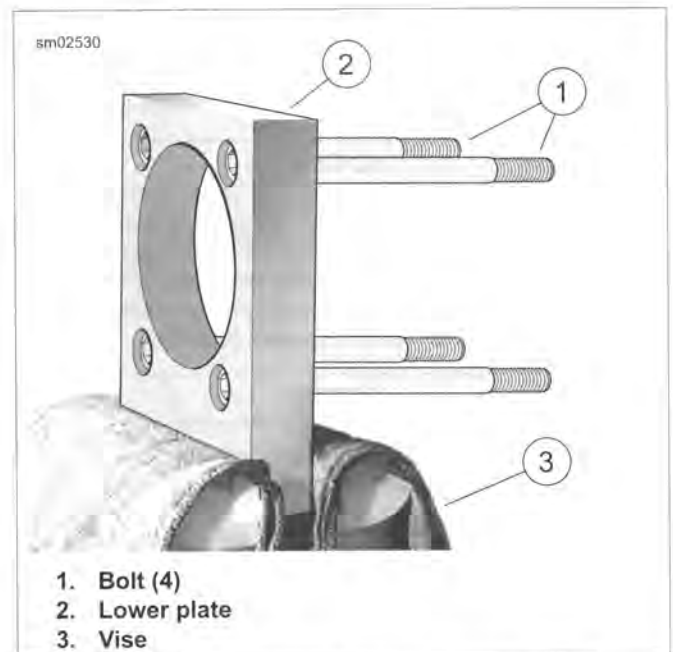
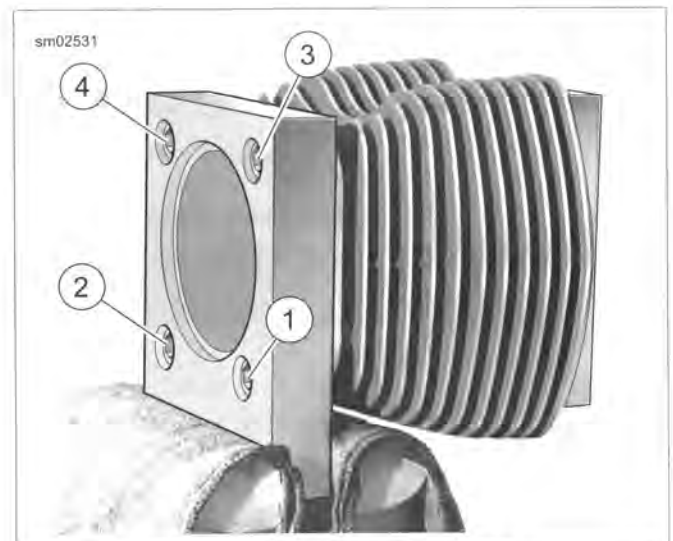

Figure 3-51. Attaching Cylinder Torque Plates
Figure 3-52. Cylinder Torque Plate Bolt Sequence
- b. See Figure 3-51. Clamp the stepped side of the lower plate in a vise with soft jaws.
- c. Lightly oil threads and shoulders of four bolts (1) with clean engine oil and slide through holes of lower plate (2).
- e. Place a used head gasket on cylinder. Install upper plate with blind holes aligned with dowel pins in cylinder. Secure with bolts (1).
- f. See Figure 3-52. Tighten the bolts to 120-144 **in-lbs** (13.6-16.3 Nm) in the sequence shown.